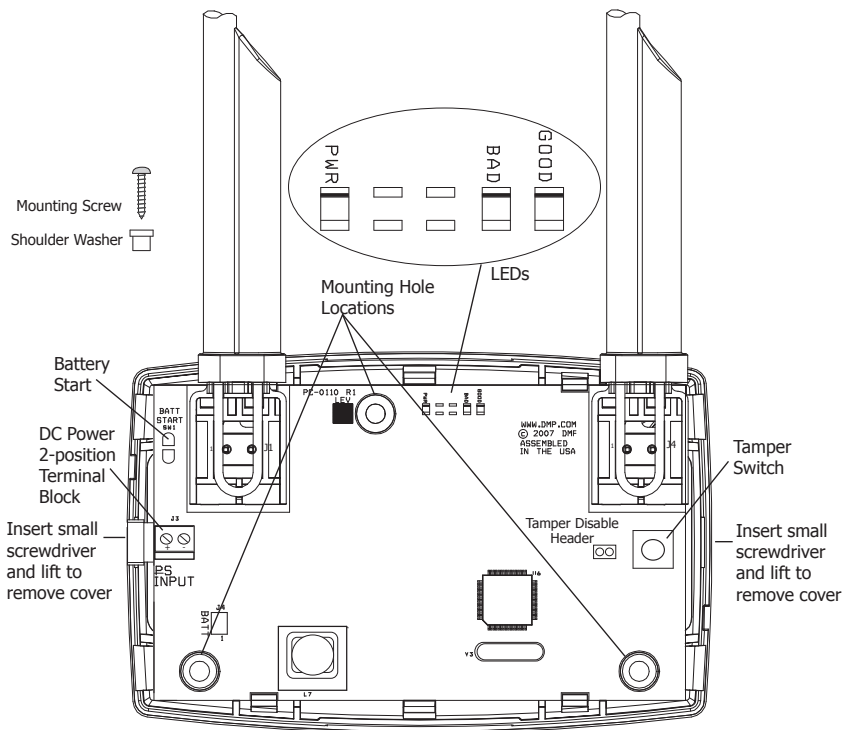

Figure 1: 1100R Repeater PCB Layout
The 1100R provides a survey capability to allow one person to confirm communication with the 1100 series receiver while the cover is removed. The 1100R provides the option to power up using the Lithium battery only for survey operation. Briefly short the Battery Start pads together to power up. See Figure 1.
2. Secure the receiver to the wall ensuring the two antennas are pointing up and the wall tamper switch makes proper contact with the wall. Use the supplied shoulder washers and screws in the mounting hole locations. See Figure 1.